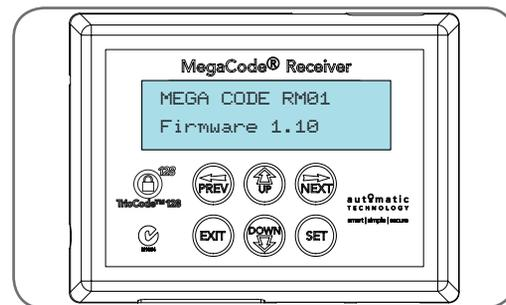

Fig 3.1
- The receiver will go through a startup sequence displaying the startup screen which indicates the receiver type and firmware version (**Fig. 3.1**).